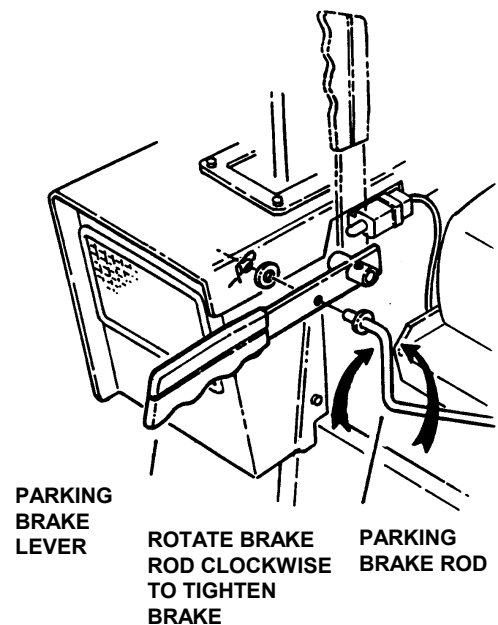

FIGURE 5.4
3. Disconnect parking brake rod from parking brake. See Figure 5.4
- 5.3.1 The park brake can be adjusted by removing the rod from the lever and rotating clockwise to increase brake tension. When properly adjusted the park brake lever should require 18 to 22 pounds force to set the brake. If this adjustment does not result in proper brake action, contact your authorized Snapper dealer for corrective action. See Figure 5.4.